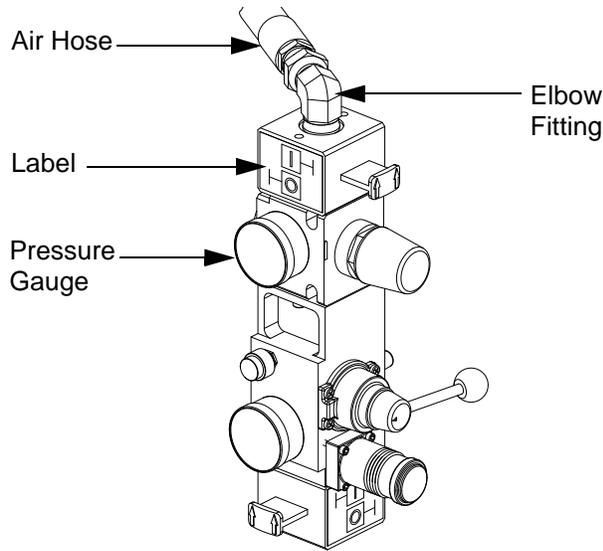

FIG. 37: Air Control Assembly
- d. Install the new air motor slider valve label that is included with the air valve assembly. See FIG. 37.
- e. Coat the gauge fitting with PTFE tape, and then reinstall. Use a wrench to tighten. See FIG. 37.